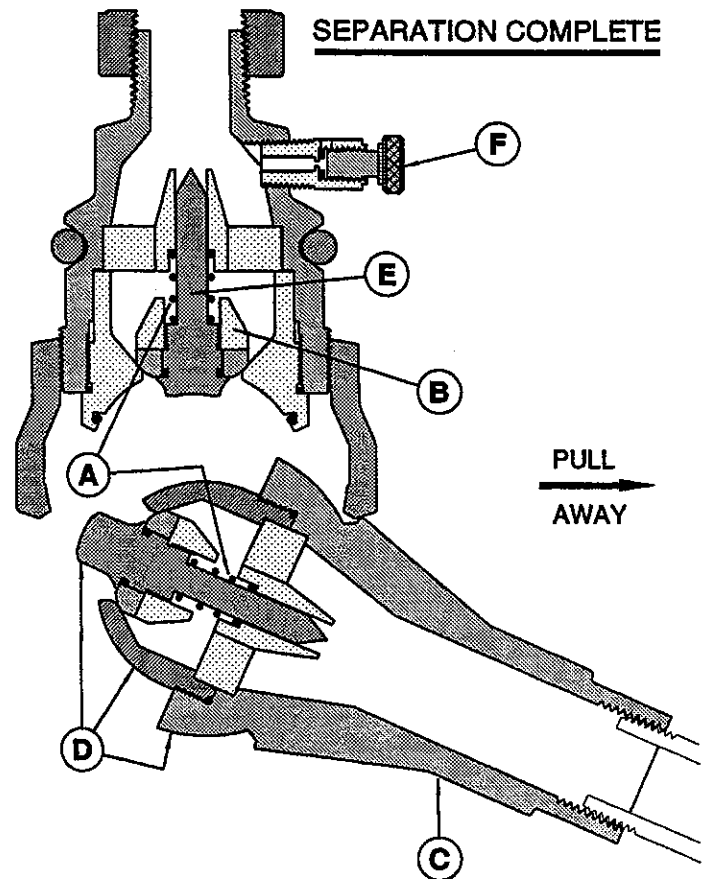

FIGURE 3
AFTER RELEASE OCCURS THE TWO BACK CHECK VALVES WILL CLOSE VERY QUICKLY TO MINIMIZE PRODUCT RELEASE AS SHOWN IN FIGURE 3. THE BACK CHECKS AND ASSIST SPRINGS (A) ARE STAINLESS STEEL AND THE SEALING SEATS ARE TEFLON TO ENSURE PROPER OPERATION ON A PULLAWAY. THE TRIPOD SWIVEL WITH THE BACK CHECK CLOSED REMAINS ATTACHED TO THE FILL HOSE AND FOLLOWS THE PULLAWAY VEHICLE UNTIL STOPPED. DAMAGE TO THE TRIPOD SWIVEL IS MINIMIZED BY HARDENING THE EXPOSED AREAS (D) ON THE SWIVEL.
6. - CLOSE THE RISER SHUTOFF VALVES ON ANY DISCONNECTED TRIPOD. THIS WILL TRAP VAPOR OR LIQUID BETWEEN THE SHUTOFF VALVE AND THE CLOSED BACK CHECK VALVE IN THE TRIPOD HOUSING (E) ON FIGURE 3)
7. - BLEED THE TRAPPED ANHYDROUS BY OPENING BLEEDER (F) ON FIGURE 3.